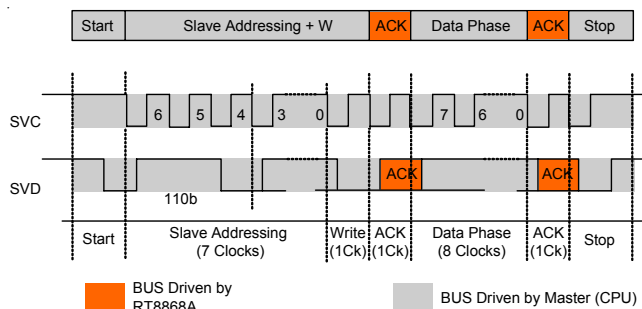

Figure 1. SVI Communication-Send Byte
SVI wire protocol is based on fast-mode I²C as shown in Figure 1. SVI interface also considers two additional signals needed to manage the system start-up. These signals are EN and PWROK. The device asserts a PGOOD signal if the output voltages are in regulation.
The Set VID Command is defined as the command sequence that the CPU issues on the SVI bus to modify the voltage level of the Core section and NB section, as shown in Figure 1. During a Set VID Command, the processor sends the start (Start) sequence followed by the address of the Section which the Set VID Command applies. The processor then sends the write (WRITE) bit. After the write bit, the Voltage Regulator (VR) sends the acknowledge (ACK) bit. The processor then sends the VID bits code during the data phase. The VR sends the acknowledge (ACK) bit after the data phase. Finally, the processor sends the stop (Stop) sequence. After the VR has detected the stop, it performs an On-the-Fly VID transition for the addressed section(s). Refer to Table 3 for the details of SVI send byte.